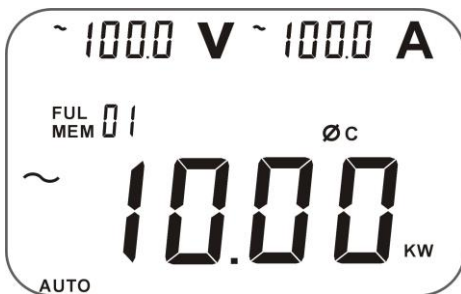

figure 13
- After sum up the current power measurement value of the second phase, then press **SELECT** again to choose the third phase Ø C, as figure 13.